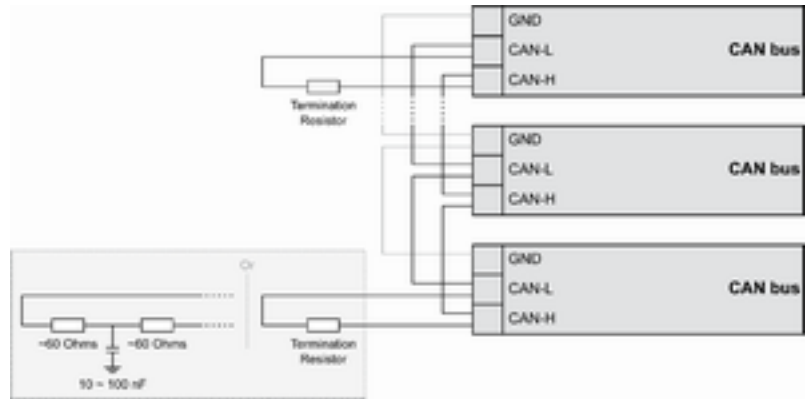

Fig. 54: CAN bus - termination
The termination resistor is connected between CAN-H and CAN-L (Fig. 54).
- Divide the termination resistance into 2x60 Ohms with a center tap connected to ground via a capacitor of 10 to 100 nF (Fig. 54).